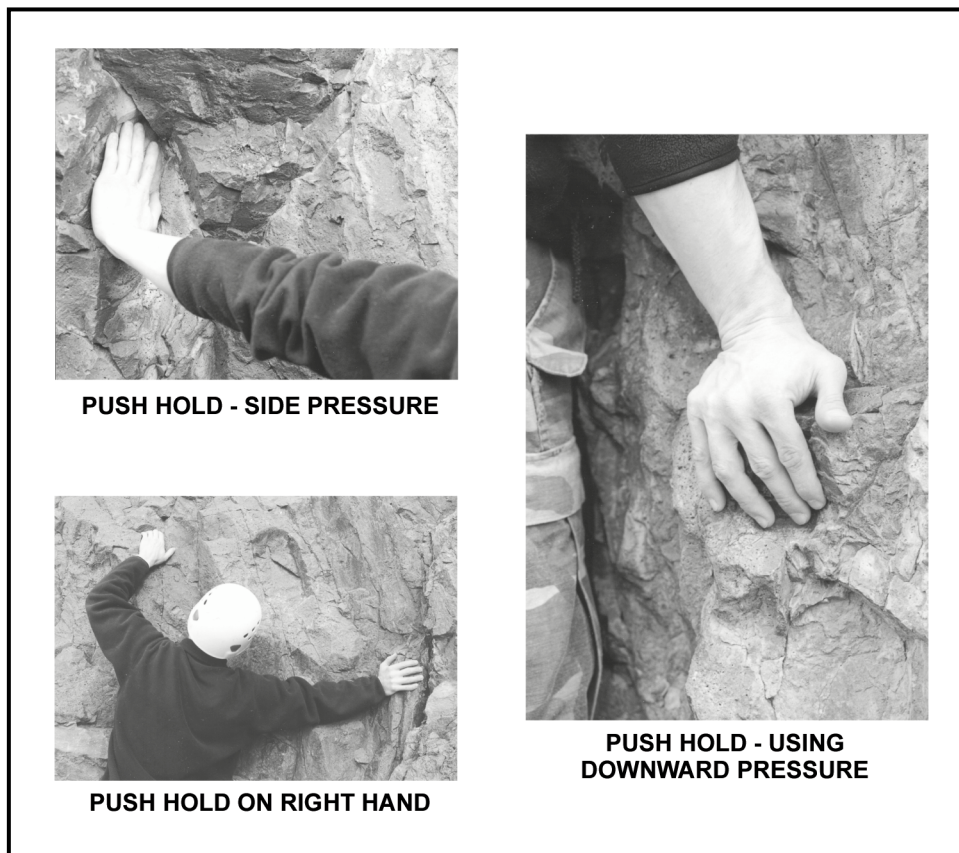

Figure 6-8. Examples of push holds.
(1) **Push Holds.** Push holds rely on the friction created when the hand is pushed against the rock. Most often a climber will use a push hold by applying “downward pressure” on a ledge or nubbin. This is fine, and works well; however, the climber should not limit his use of push holds to the application of down pressure. Pushing sideways, and on occasion, even upward on less obvious holds can prove quite secure. Push holds often work best when used in combination with other holds. Pushing in opposite directions and “push-pull” combinations are excellent techniques. (Figure 6-8 shows examples of push holds.)